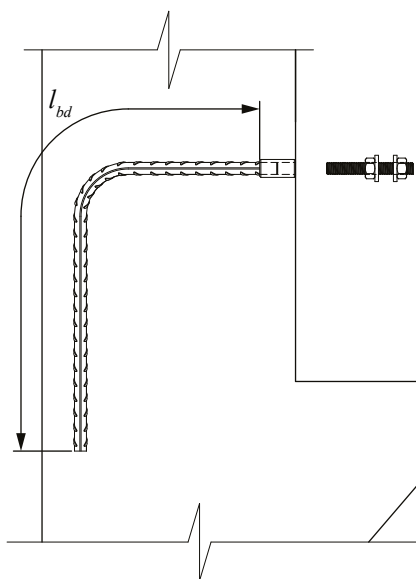

Figure 7. Anchorage length for bent anchoring couplers.
- l_{bd} = Anchorage length, *Figure 7* [mm]